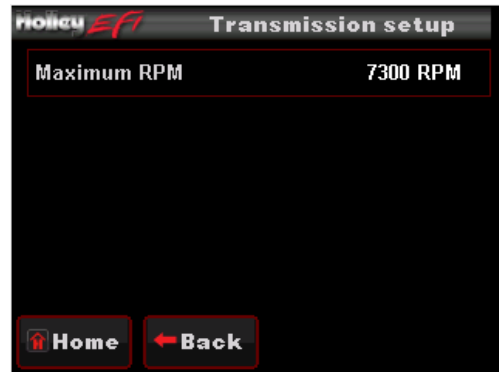

Figure 62
**Transmission RPM:** If this RPM is exceeded when in manual shift mode, the transmission will upshift automatically. If a manual downshift is performed, and this RPM will be exceeded, the downshift will not be allowed. This value should be slightly higher than the WOT shift points (Figure 62).